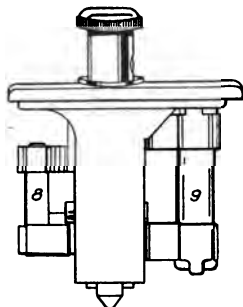

Fig. 341. U.S.L. Generator Fuse Block
**Fuse Blocks.** There are two of these, the smaller, illustrated in Fig. 341, being the generator fuse block. This contains only two